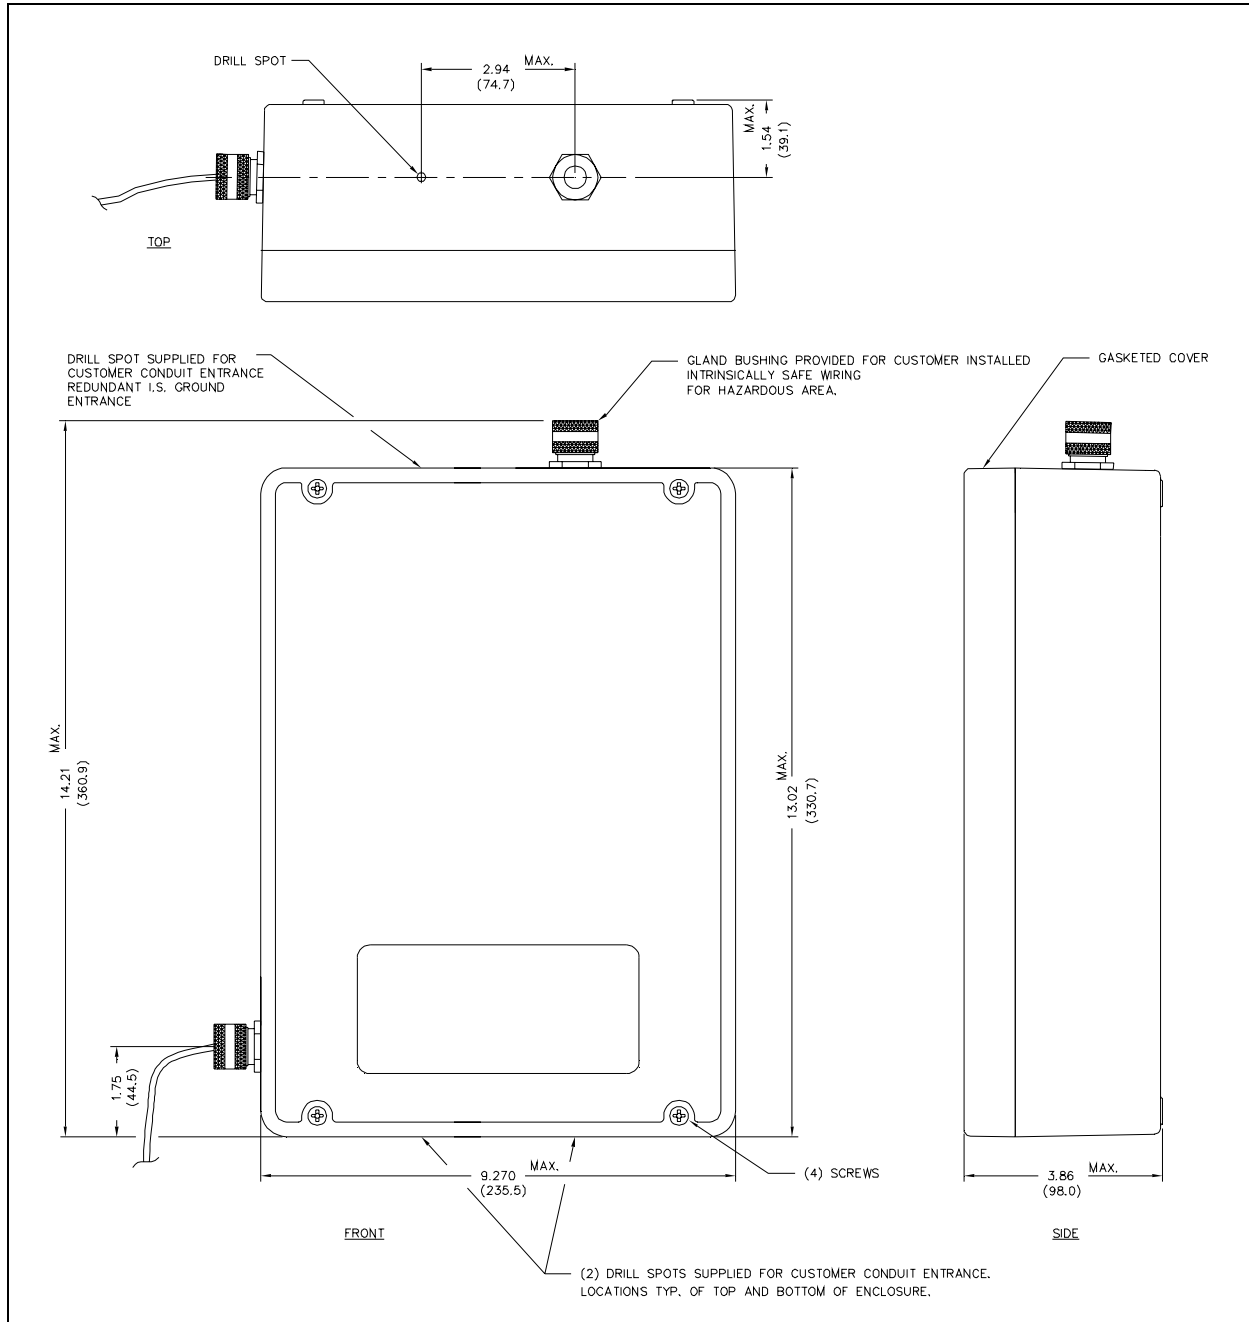

Figure 3. Model 263 Isolation Barrier Unit dimensions
2. Refer to Figure 3. Determine which of the conduit locations is to be used. Drill spots have been provided for use with a chassis punch or hole saw. Using a hole saw is recommended.